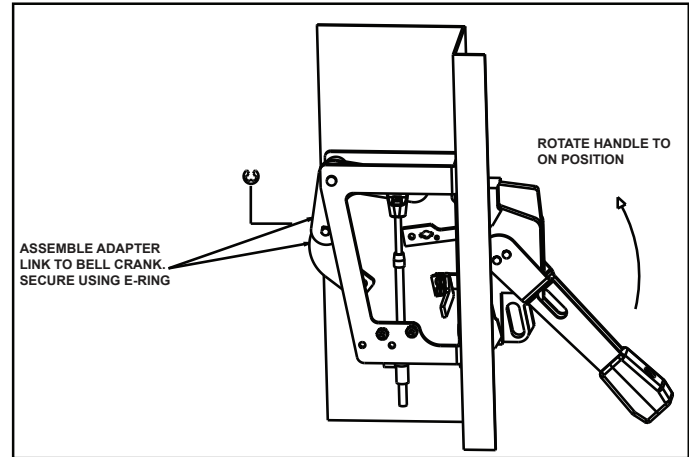

Fig. 1-4 Assembly of Adapter Link to Bell Crank.
4. Insert the adapter link into the pin of the bell crank via the largest hole on the link (see Fig. 1-4). Secure the adapter link by inserting the E-ring into the slot on the bell crank pin.